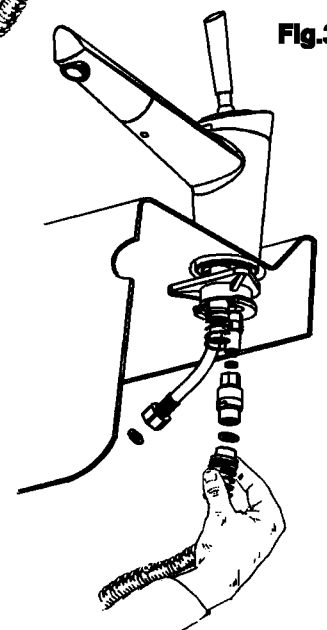

Fig.3
- ◆ Screw the valve (22) on the rod (27) paying attention to the correct position of the gasket (21) (Fig.3)